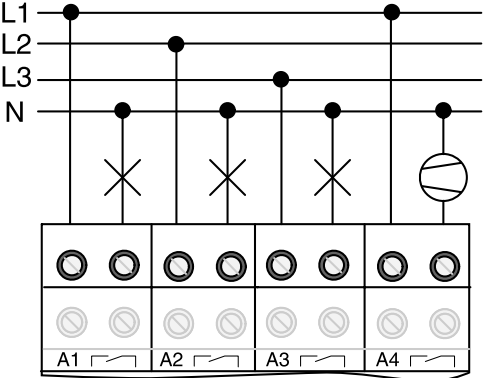

Fig. 4: Connection of switched loads
- Connect the switched loads (Fig. 4). Do not exceed the permissible load ratings (Technical data).